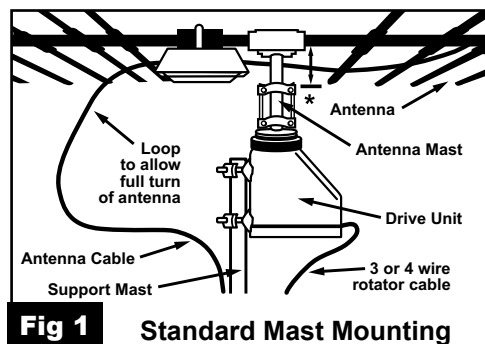

Fig 1 Standard Mast Mounting
- Install drive unit. On new drive units, arrow on mast support should be aligned with arrow shaped mast stop on housing. Install drive unit with arrows pointing south. Using a short piece of mast (3 feet or less), install the antenna to the drive unit aiming the antenna south. When desired channels are close to or on opposite sides of the north end stops, the antenna may be installed pointing north. Note, however, that the antenna will be pointing in the opposite direction from that indicated on the control. An alternative means of setting up is to perform a synchronization of the drive unit using the controller. Then set up the antenna pointing north. Ensure power is disconnected from the controller when making antenna adjustments. See Fig 1 and 2.